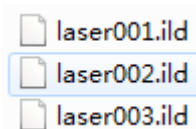

Fig. 4
2.Put the ild format document in “ildfiles” folder. (Caution: The name limited 8 character ). For example fig.4